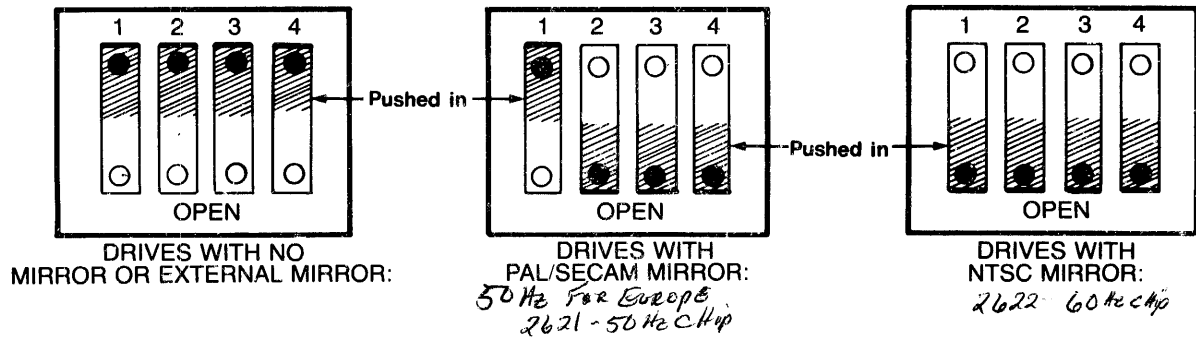

Figure 10. Mirror Micro Switches
If you are using a 6MB drive, verify that the microswitches on the rear bezel are set correctly (see Figure 10).
When the internal Mirror is installed all switches should be in the open position, that is, all switches are pushed in at the bottom (see Figure 10).
5. If the drive is of PAL/SECAM format (European), switch one will remain in the closed position (see Figure 10).
5. If you have a 6MB drive, set the switches on the rear panel of your drive making sure that the switches are fully depressed (see Figure 10).